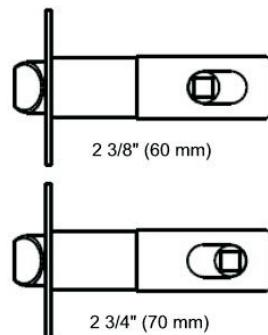

fig. 3
mm) or 2  $\frac{3}{4}$ " (70 mm) (see fig.3).
1.3 Make sure to keep the inside of the chassis vertically aligned during installation. Connect and arrange the wires to ensure that they are not pinched or crushed at any point during installation. The Square Spindle should slide smoothly into the square hole on Lever Spindle (see fig. 3).